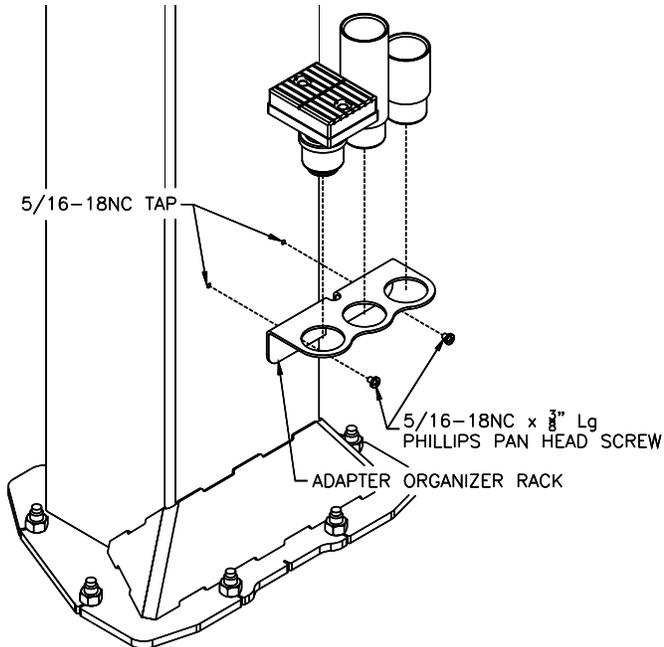

Fig 22-Adapter Rack Installation
62) Locate the two pre-drilled holes on the back of each column 19" up from the top of the base plate and tap 5/16-18. Center the adapter rack and attach with 5/16-18NC Phillips Pan Head Screws supplied, **Fig. 22**.